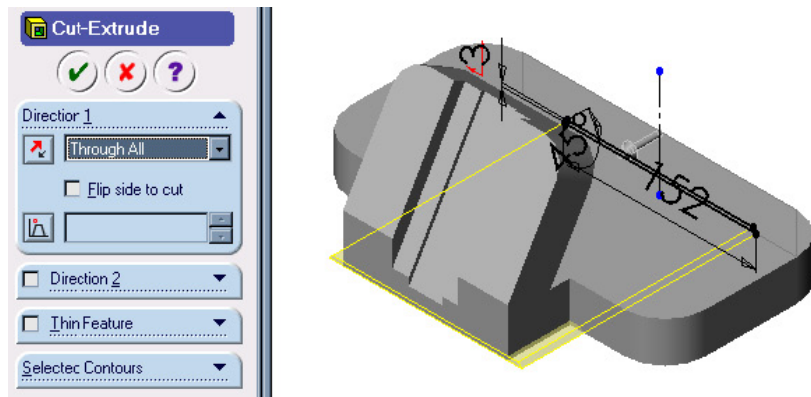

Figure 17 Bottom slot cut parameters
19. Select **Through All** in the end condition drop down list box as shown in the Figure 17.